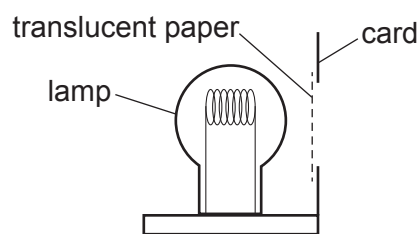
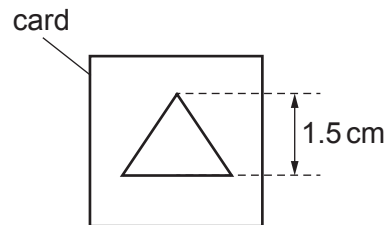

Fig. 3.1
Fig. 3.2
- (ii) Illuminated object with a triangular hole of height 1.5 cm (see Fig. 3.1 and Fig. 3.2). The hole is to be covered with thin, translucent paper (e.g. tracing paper). See note 2.